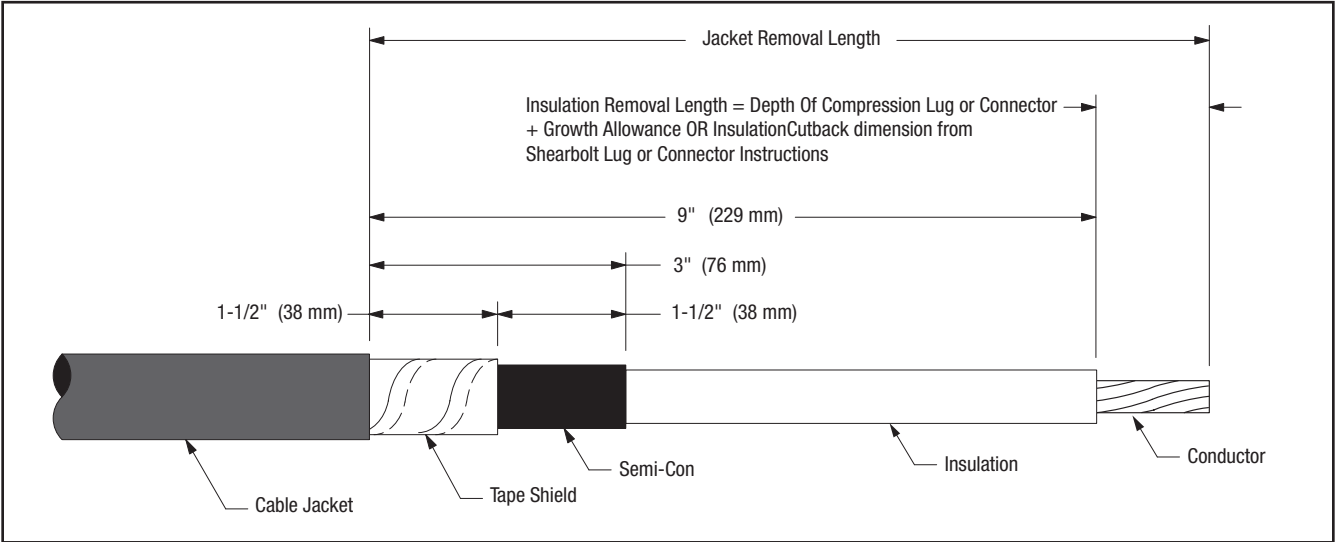

Figure 1
- Prepare cable using dimensions shown in Figure 1. **BE SURE TO ALLOW FOR DEPTH OF TERMINAL LUG OR CONNECTOR.** If necessary to prevent tape shield from unrolling, hold down edge with a single wrap of 3M EMI Copper Foil Shielding Tape 1181. If using 3M Shearbolt Lugs QL2 Series: Two Hole, or 3M Mechanical Shearbolt Connector QCI Series, proceed to Step 2.3. If using a Crimp Type (Compression) lug, measure the depth of the barrel, or if using a Crimp Type (Compression) connector, measure to the barrel center stop/midpoint, and see the NOTE below in order to calculate the Insulation Removal Length. Table 4 can be used to assist in calculating the total Jacket Removal Length when using a compression lug or connector